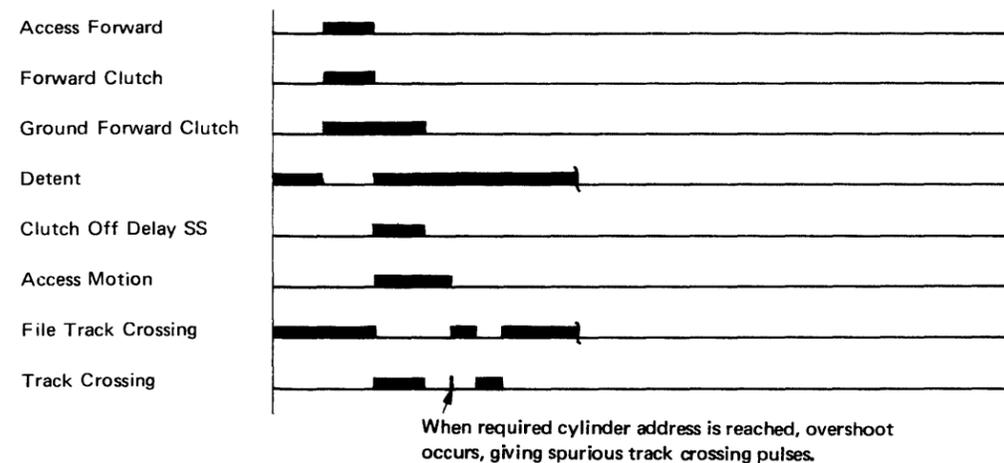

Figure 1-43. Head Forward Operation – Timing [07504]
- Timing is given in Figure 1-43.
- See Figures 1-43, 1-44, and 1-45 for timing and logic.